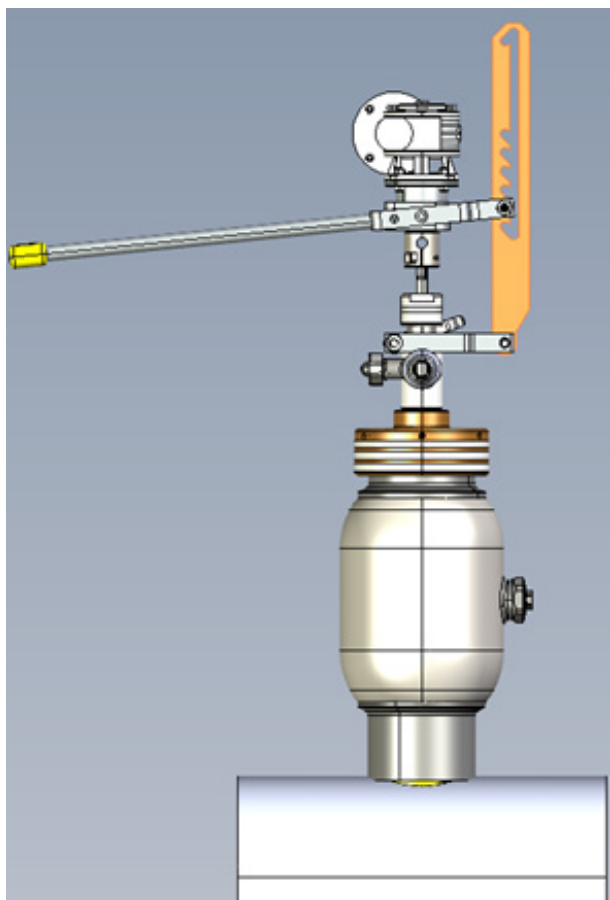

Figure 7
**The grate part of the drilling column is mounted 180° opposite, as shown on figure 7.**